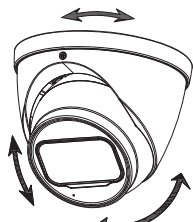

Figure 3-4
- For model B and model C, put the enclosure ⑥ back on and adjust the locking screw ⑧ to hold it, leave some spaces enough for you to adjust the device ⑤. Aim the lens to the ideal angle and adjust the focus until you get clear image (see Figure 3-4) and fasten the locking screw ⑨.